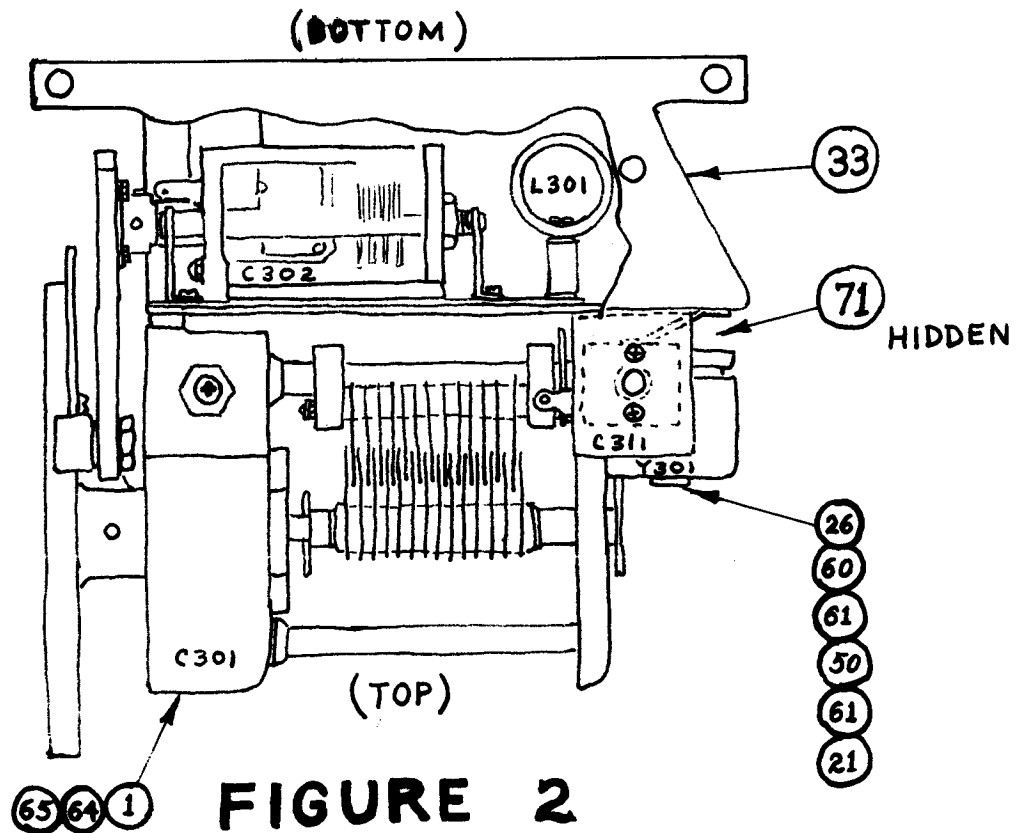

FIGURE 2
- 7.1.4 Align C301 (part # A-1000) such that all of the rotor plates are uniformly contained within the stator plate area (see figure 2).